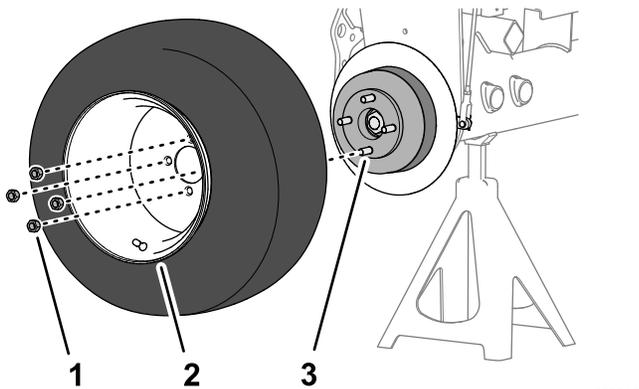

Figure 76
1. Remove the 4 lug nuts that secure the front wheel to the hub, and remove the wheel (Figure 76).